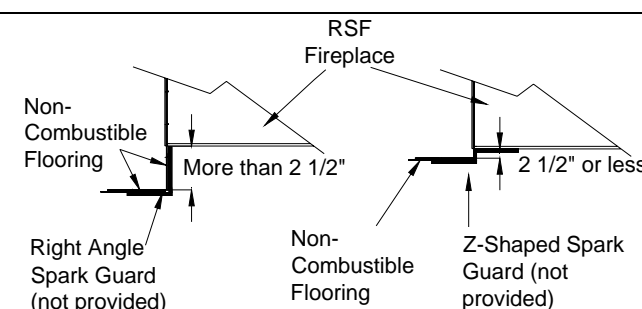

Figure 16 Special Custom-made Spark Guard
If you are preparing a raised installation, you will need a custom made spark guard, either a "Z" shaped spark guard or a right angle spark guard (see Figure 16). The Z-shaped spark guard must be used if the height between the bottom of the fireplace and the top of the non-combustible flooring of the hearth extension is less than or equal to 2½". The height of the Z-shaped spark guard must equal the distance between the floor and the base of the unit and go under the hearth extension and the fireplace by at least 2½". If the unit is installed higher than 2½" from the top of the flooring, a right angle spark guard is necessary. The sides of the right angle spark guard should be at least 2½" x 2½" and must be covered with non-combustible material. Any custom made spark guard must have the minimum width specified in Table 1 (I), and be installed centered on the door opening.